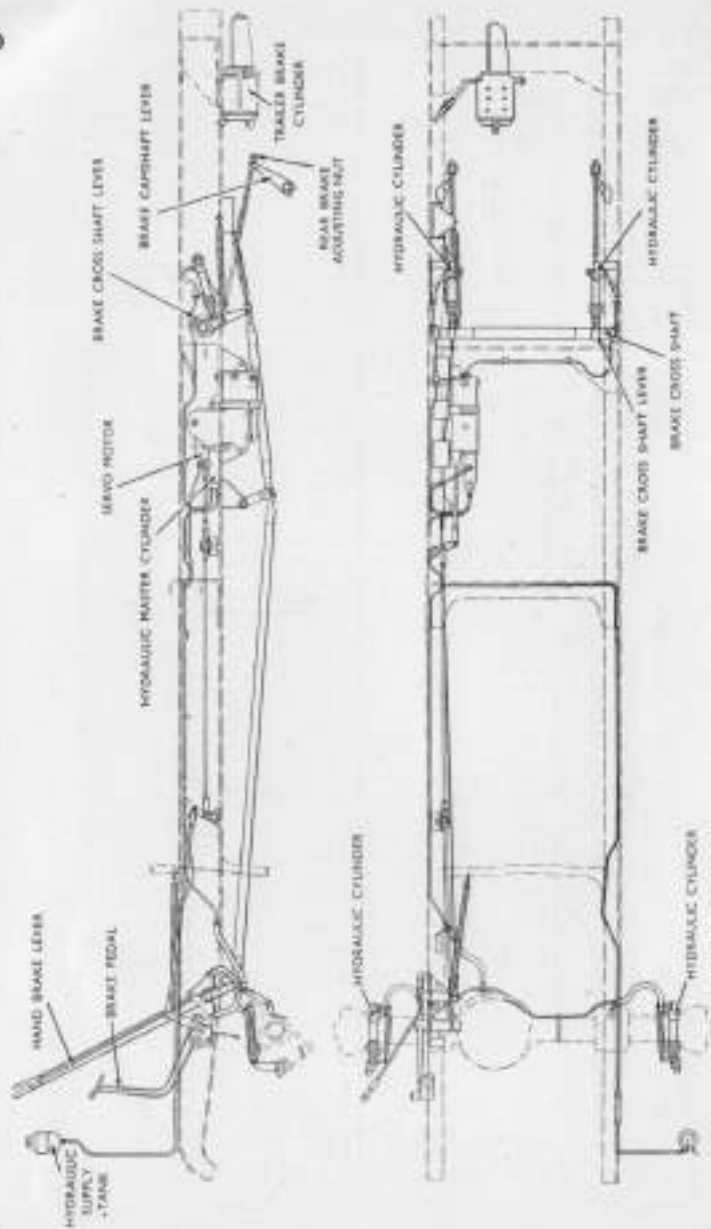

Fig. 35. Arrangement of Brake Gear (Hydraulic and Mechanical Rigging)
(H) HYDRAULIC SUPPLY TANK (ON FRONT DASH) (*see Fig. 35*).